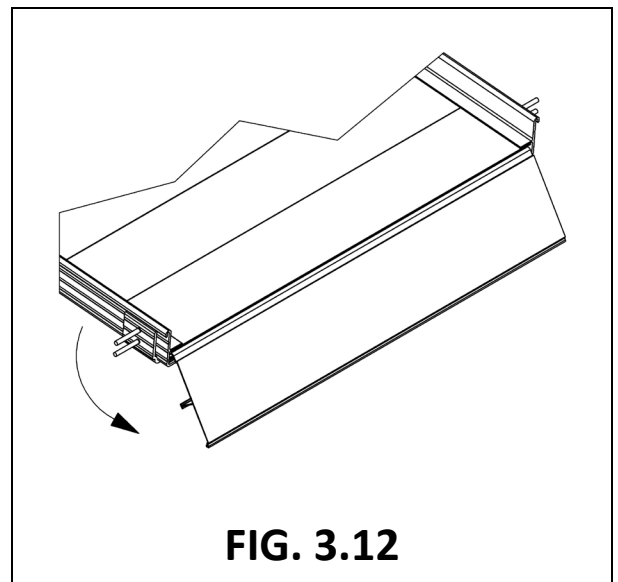

FIG. 3.12
3.5.3. Rotate into place (FIG. 3.12) and set back on the ground.